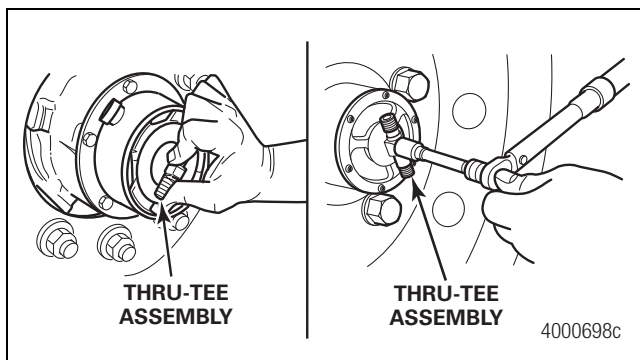

Figure 2.48
- Hand-tighten the thru-tee assembly. Tighten the tee with a torque wrench set at 45 lb-in (5 N•m). Check alignment of the tee air fittings to the tire valve stems. If aligned, go to Step 6. If not aligned, retighten the tee with a torque wrench set to 55 lb-in (6 N•m) and tighten until aligned. Do not exceed 55 lb-in (6 N•m). If still not aligned, repeat Step 5. Figure 2.48. ⓘ